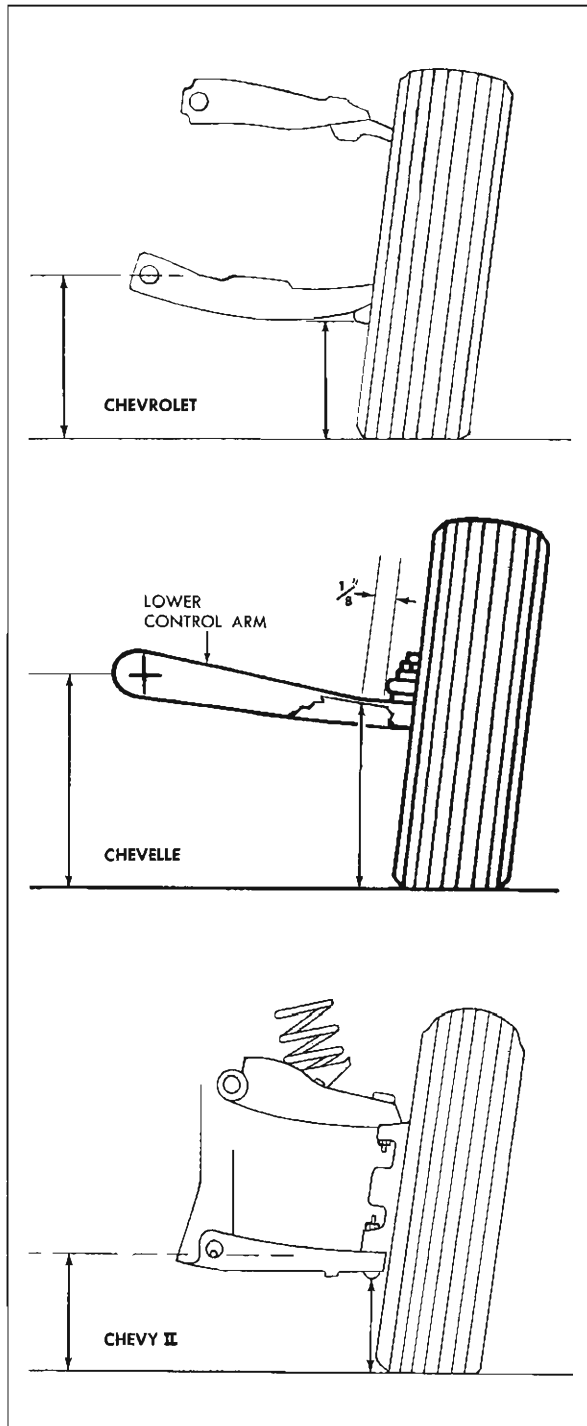

Fig. 8—Checking Riding Height
2. Measure the following two distances (fig. 8):